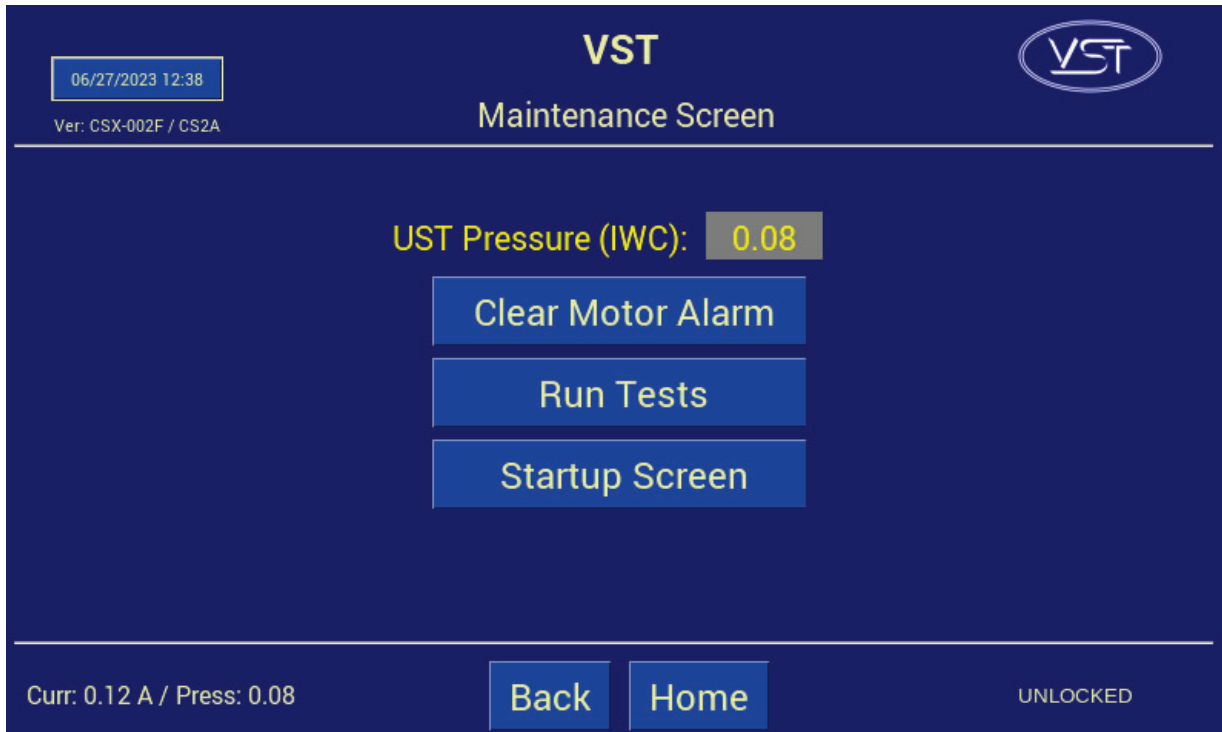

Figure 8-17: Maintenance Screen
1.	<p>Check to see if the Vacuum Pump breaker (BRK1) in the Control Panel has tripped. See Figure 8-21.</p> <ul style="list-style-type: none"><li>a) Enter the Maintenance screen using the code 878 to disable the GREEN MACHINE.</li><li>b) Open the Control Panel front door</li><li>c) Check the breaker BRK1 to see if it tripped:<ul style="list-style-type: none"><li>● If the breaker lever is up and the window is RED, the breaker has not tripped.</li><li>● If the breaker lever is down and the window is GREEN, the breaker has tripped.</li></ul></li><li>d) If the breaker has not tripped, go to Step 2.</li><li>e) If the Vacuum Pump breaker has tripped, move the lever up to reset the breaker.</li><li>f) Push the Clear Motor Alarm button so the alarm resets. See Figure 8-17.</li><li>g) Push the Home button to go back to the Main Screen and the alarm will be cleared.</li><li>h) The GREEN MACHINE is now in a Normal Operating Mode and will operate if the UST pressure is above 0.2 IWC.</li><li>i) NOTE: IF THE VACUUM PUMP BREAKER CONTINUES TO TRIP, GO TO STEP 2.</li></ul>
- i) Push the Clear Motor Alarm button so the alarm resets. **See Figure 8-17.**
**See Figures 8-17 and 8-18.** Then press the Leak Test button.